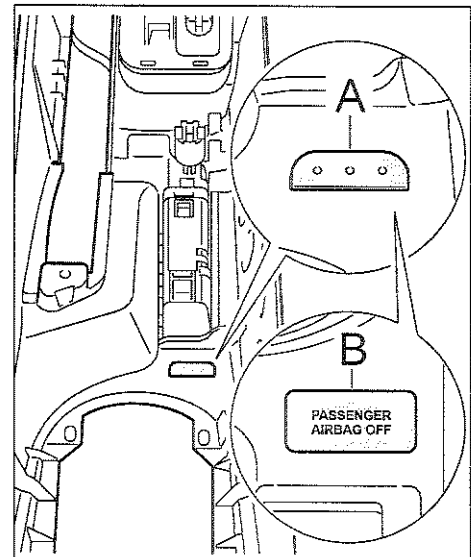

Figure 12
- 5.2 Cut out embossed cut-out ⇒ *Figure 12 -A-* for PAO warning light.
- 5.3 Clip PAO warning light ⇒ *Figure 12 -B-* into cut-out.